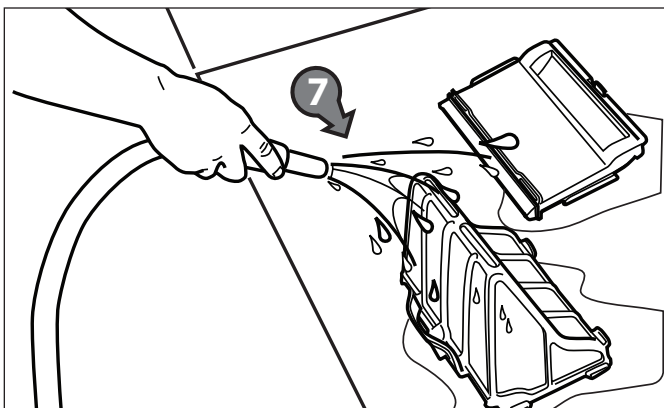

Figure 25. Wash Filter Canister
9. Wash the filter canister, the filter support, and the cleaner under water or using a hose (7). Refer to Figure 25.